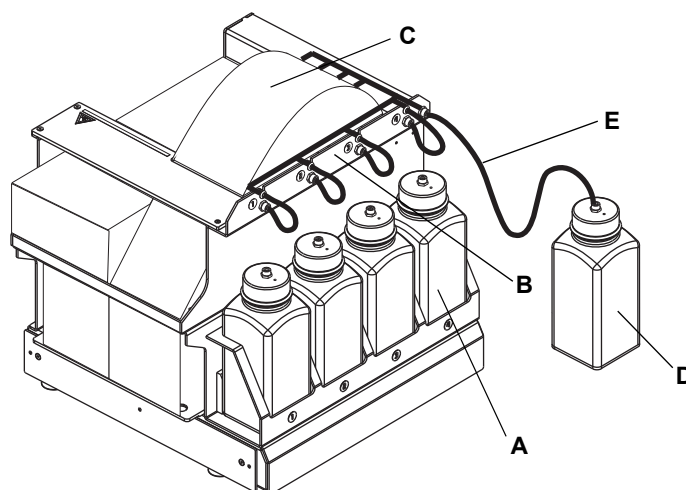

Fig. 7-20 Washer in maintenance mode
- For maintenance purposes, the plate washer can be connected in a different way, as shown in Fig. 7-20 , 7-32. The tubings from the wash bottles are reconnected to the distribution channel. The wash liquid is supplied by a separate bottle. This arrangement allows rinsing the washer and the tubing system simultaneously.
- 1 Disconnect the bottle tubings from the bottles and connect them to the distribution channel couplings as shown in Fig. 7-20 , Fig. 7-32.
- 2 Connect a separate bottle (D) filled with an appropriate cleaning liquid to the rightmost coupling of the distribution channel.